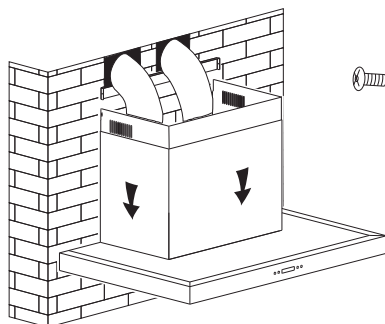

Fig. 7
- Slide the inner flue cover into the outer flue cover. Take them together and put them on the top of the hood. See figure 7.